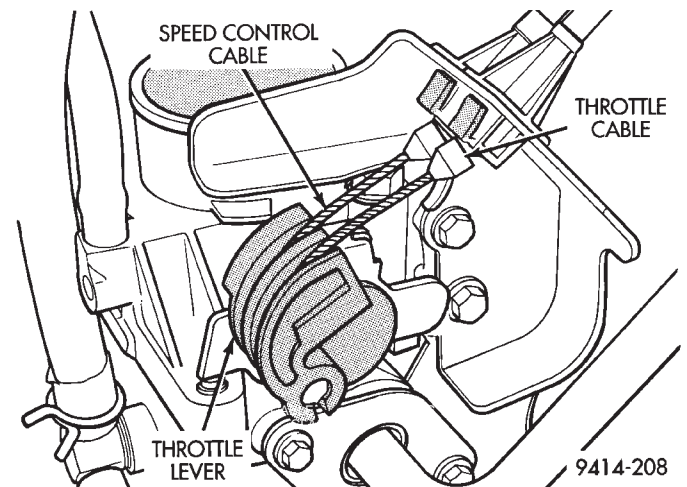
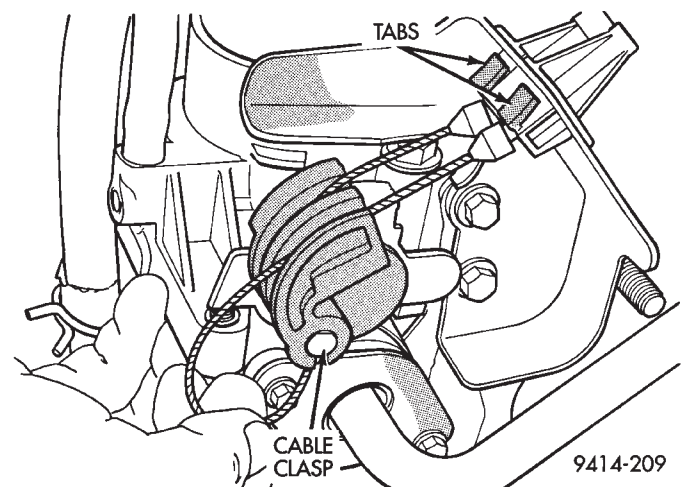

Fig. 64 Throttle Cable Attachment to Throttle Body
Fig. 65 Disconnecting Throttle Cable
- (3) Remove throttle cable from the throttle body lever (Fig. 64) and (Fig. 65).
- (4) Compress the retaining tabs on the cable and slide cable out of bracket.
- (5) If equipped with speed control, remove speed control cable from throttle lever by sliding clasp out hole used for throttle cable.
- (6) Remove EVAP purge hose from nipple on throttle body.
- (7) Remove 2 screws holding cable mounting bracket and support bracket.
- (8) Remove throttle body mounting bolts.
- (9) Lift throttle body far enough to remove connectors from the throttle position sensor and idle air control motor. Remove throttle body.